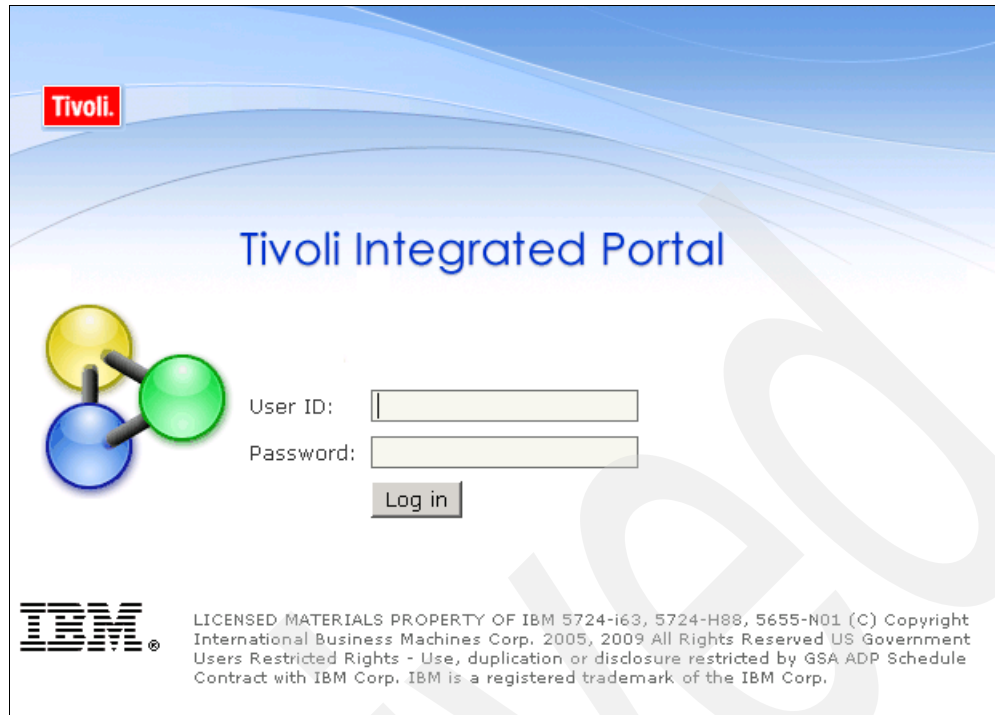

Figure 6-20 TKLM\_v2\_login
20. The Tivoli Integrated Portal login screen is displayed (Figure 6-20 on page 118). From this screen you can log into either TIPAdmin or TKLMAdmin, depending on what tasks you need to do.